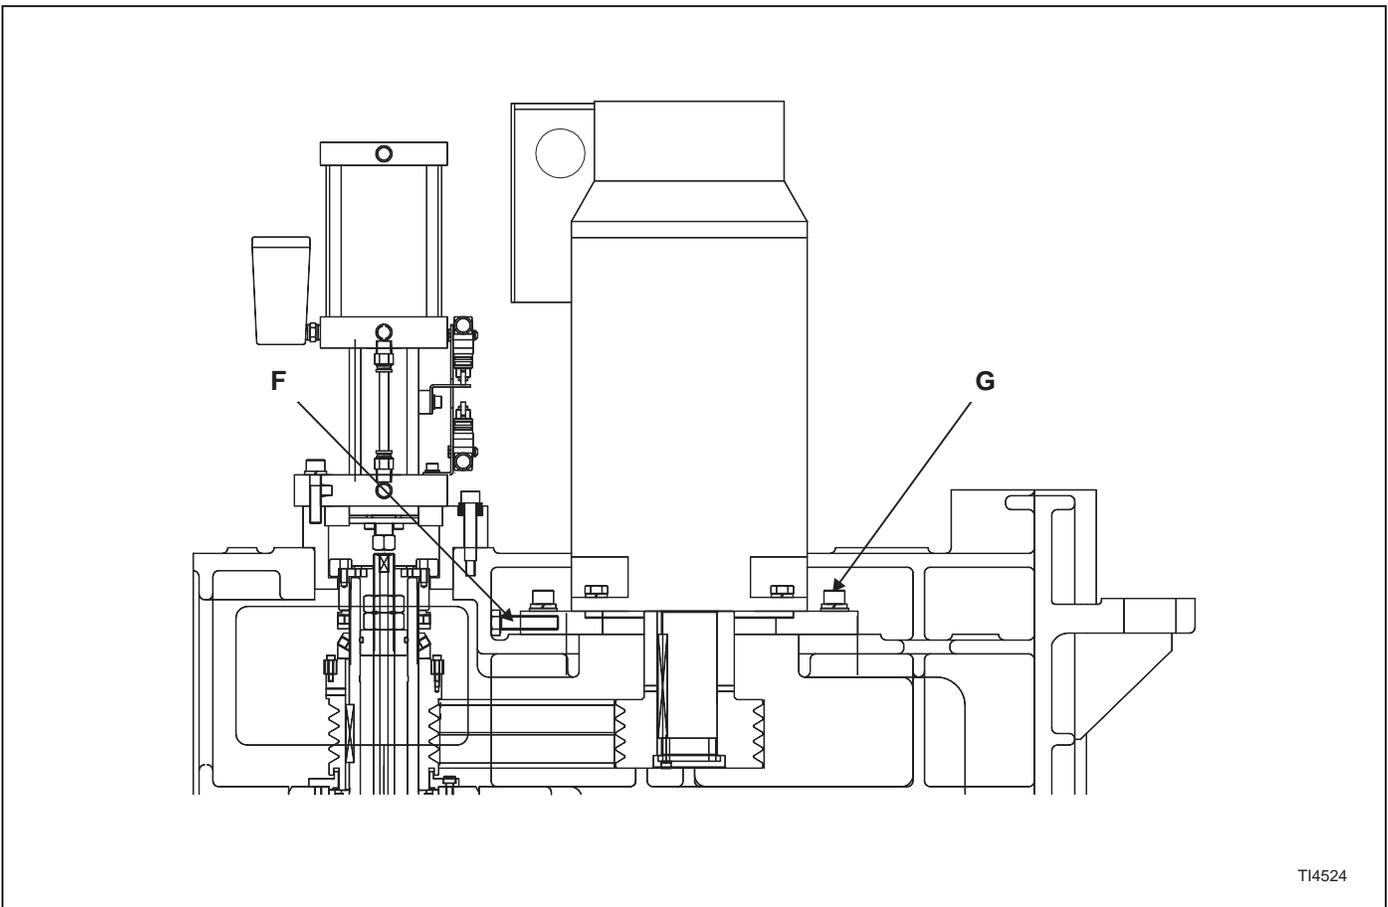

Figure 5.7 - Spindle Belt Tension Adjustment
3. Loosen four mounting screws "G", Figure 5.7, on the motor plate and two nuts of adjusting screw "F".